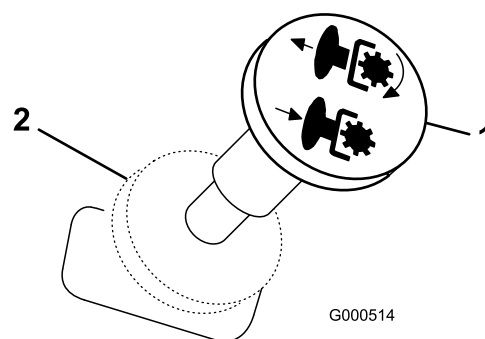

Figure 8
3. Disengage the blades by moving the blade control switch to Off (Figure 8).
- Disengage the blades by moving the blade control switch to Off (Figure 8).